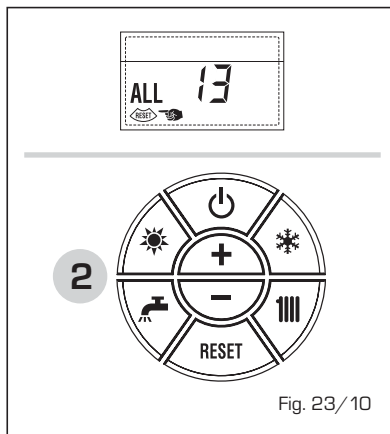

Fig. 23/10
**- ANOMALIA SONDA FUMOS “ALL 14” (fig. 23/11)**